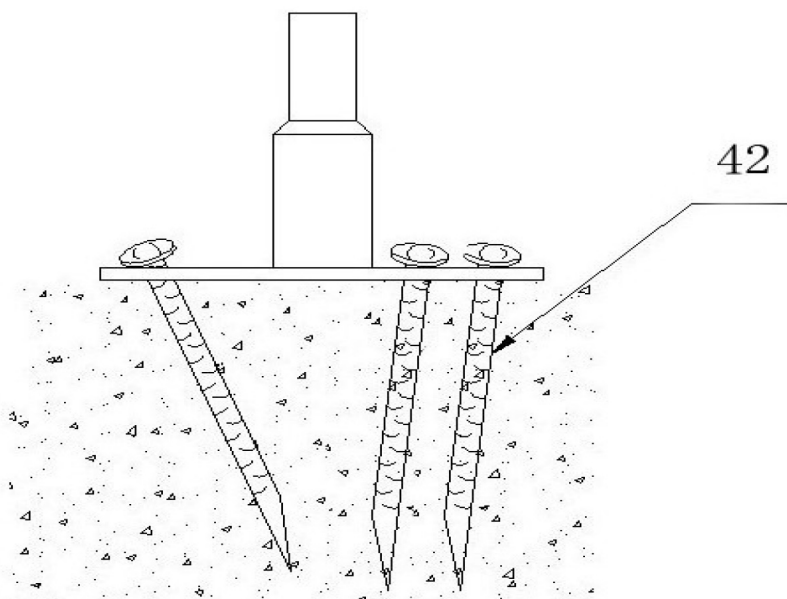

Figure 3
2. There is three holes on the plates for stake pegs. Refer to Figure 3 to place the stake pegs into the ground, thus all base plates are secured.
As Figure 3 shows each Base Plate is equipped with 3 pieces of Stake Peg (No.42).